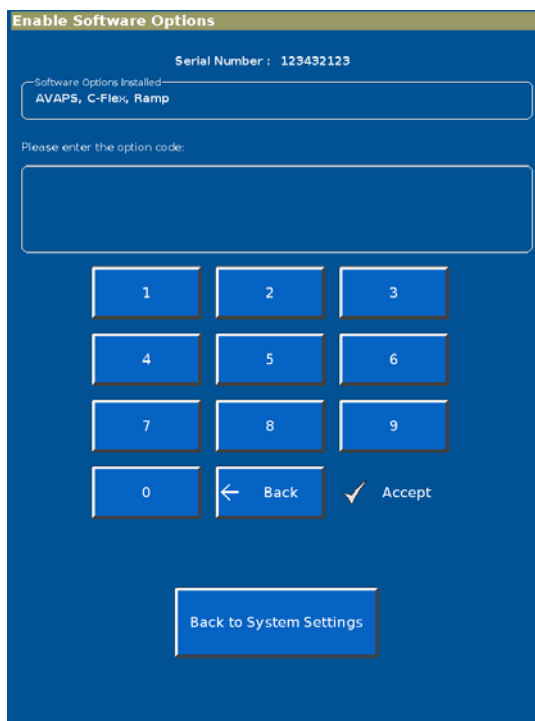

Figure 5-8: Enable Software Options Screen
2. Use the onscreen keypad on the Enable Software Options screen (Figure 5-8) to enter the option code, then touch **Accept**.